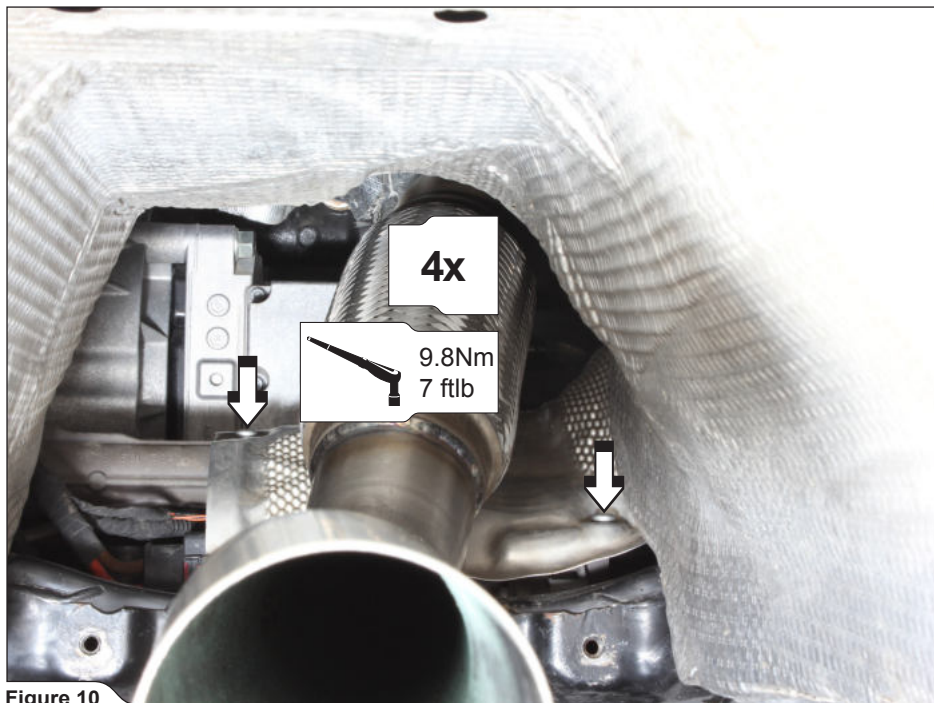

Figure 10
1. Insert the Akrapovič Down Pipe into the engine compartment and reinstall the stock heat protection (Figure 10).